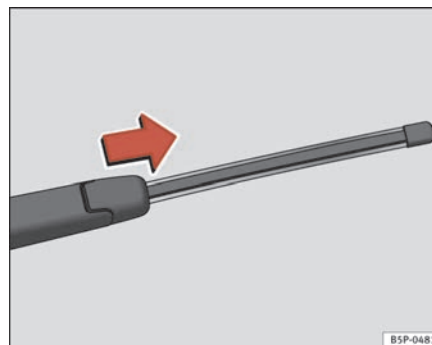

Fig. 144 Remove rear window wiper blade
- Lift the wiper arm away from the glass ⇒ fig. 144.
- Slide the blade adapter in the direction of the arrow and remove the blade ⇒ fig. 144.